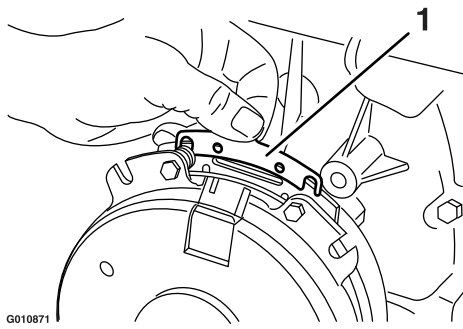

Figure 84
- B. Using needle-nose pliers, or by hand, hold the tab and remove the shim (Figure 84).
Remove any buildup of grass, dirt, or other debris from the engine screen. This helps ensure adequate cooling and correct engine speed and reduces the possibility of overheating and mechanical damage to the engine (Figure 84).